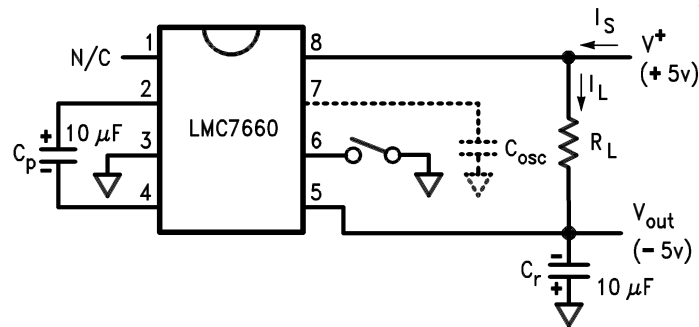

Figure 1. LMC7660 Test Circuit
- (1) Boldface numbers apply at temperature extremes. All other numbers apply at $T_A = 25^\circ C$, $V^+ = 5V$, $C_{OSC} = 0$, and apply for the LMC7660 unless otherwise specified. Test circuit is shown in Figure 1.
- (2) Limits at room temperature are specified and 100% production tested. Limits in **boldface** are specified over the operating temperature range (but not 100% tested), and are not used to calculate outgoing quality levels.
- (3) The LMC7660 can operate without an external diode over the full temperature and voltage range. The LMC7660 can also be used with the external diode Dx, when replacing previous 7660 designs.
4. External electrolytic capacitors C_r and C_p should have their polarities connected as shown in Figure 1.